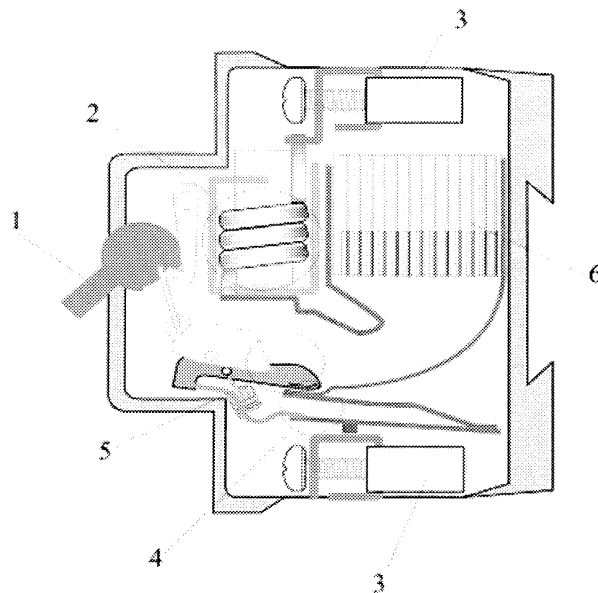

Figure T.1
1. Name the device represented in Figure T.1. Name each numbered component and briefly describe their purpose in the operation of the device.